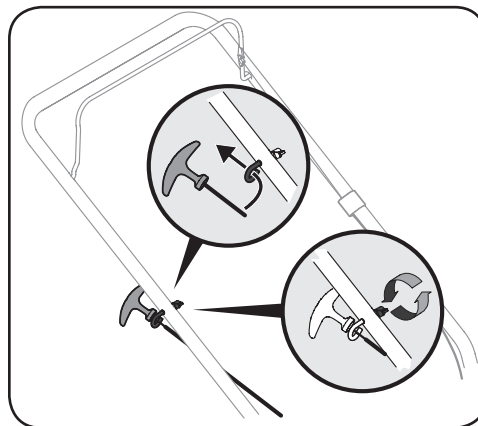

Figure 2-3
3. Loop the rope through the eye bolt. See Figure 2-3.